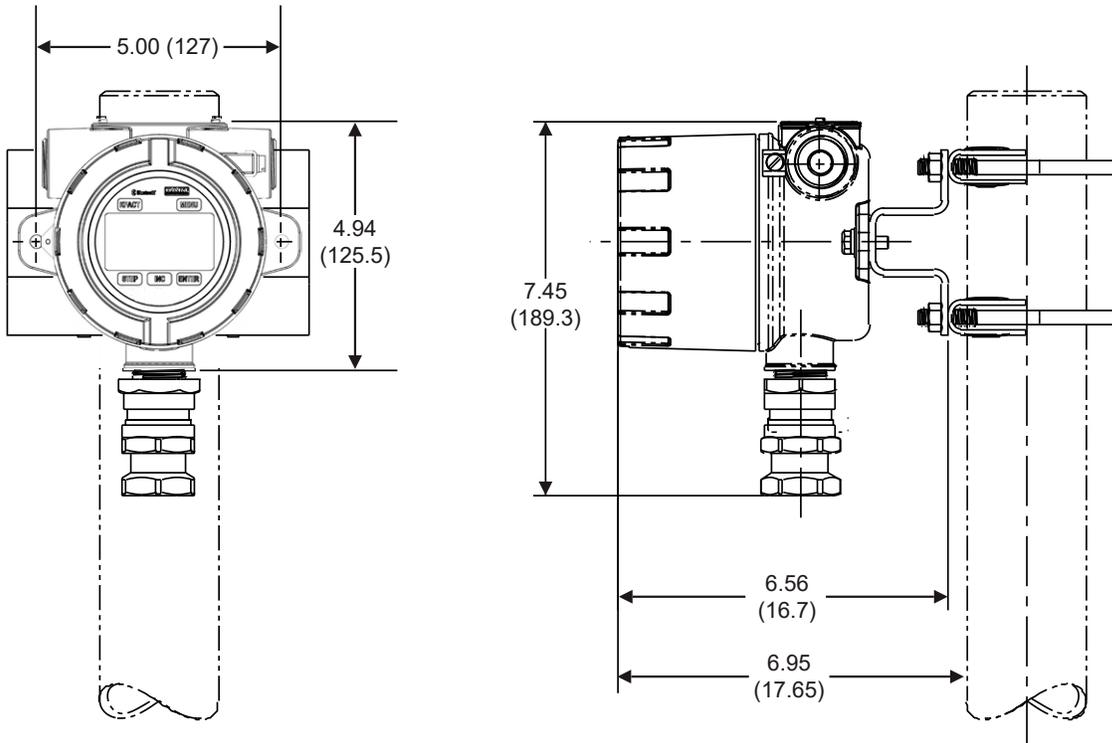

Figure 2.4—Remote mount on a 2-in. pole using a NUFLO hardware kit (Part No. 9A-30028004)
- Remote-mount the device to a 2-in. pole using a NUFLO hardware kit (Figure 2.4, page 36). Pole mounting may be preferred where limited space or pipe vibration prohibits direct-mount installation. For best results, install the device as near as possible to the meter to minimize the length of explosion-proof signal cable that must be used for communications. Stranded, shielded cable is recommended.